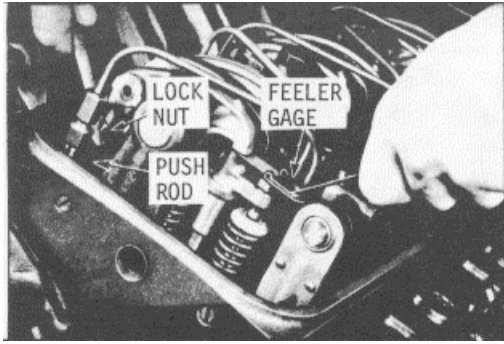

Fig. 2. Adjusting Valve Clearances
- (4) Loosen the exhaust valve rocker arm push rod locknut.
- (5) Place a .016" feeler gauge, J 9708-01, between the valve bridge and the valve rocker arm pallet (Fig. 2). Adjust the push rod to obtain a smooth "pull" on the feeler gauge.
- (6) Remove the feeler gauge. Hold the push rod with a 5/16" wrench and tighten the locknut with a 1/2" wrench.
- (7) Recheck the clearance and adjust the push rod if necessary.
- (8) Check and adjust the remaining exhaust valves in the same manner above.